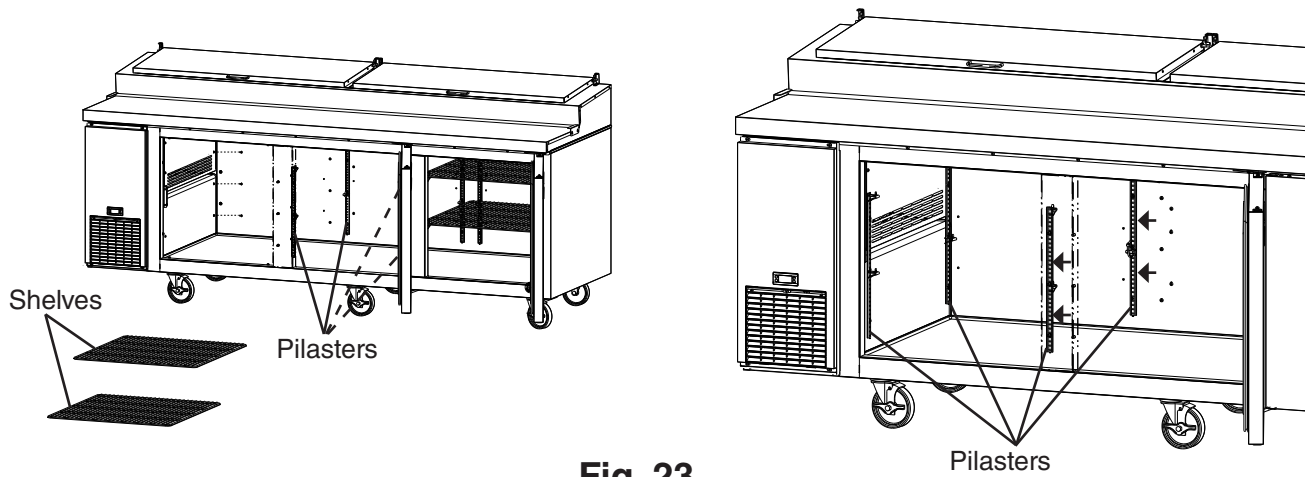

Fig. 23
- 7) Remove the shelves from the door section, then remove the pilasters and place and secure them in the new location (current drawer location). See Fig. 23. Note: Other than in a center location, outer pilasters mount on the side wall not the rear wall.